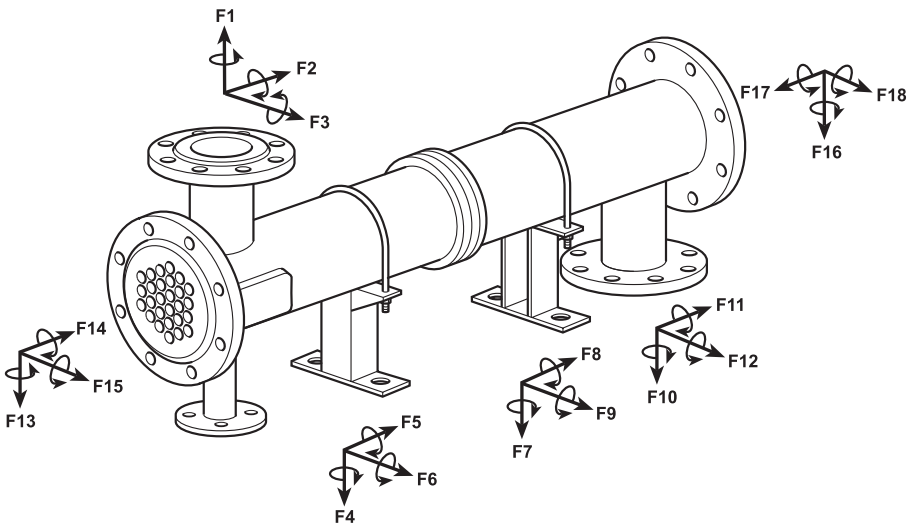

Fig. 9
- 4.9** Figure 9 illustrates the possible tubing connections. It is also acceptable to use large bended tubes or flexible connections.